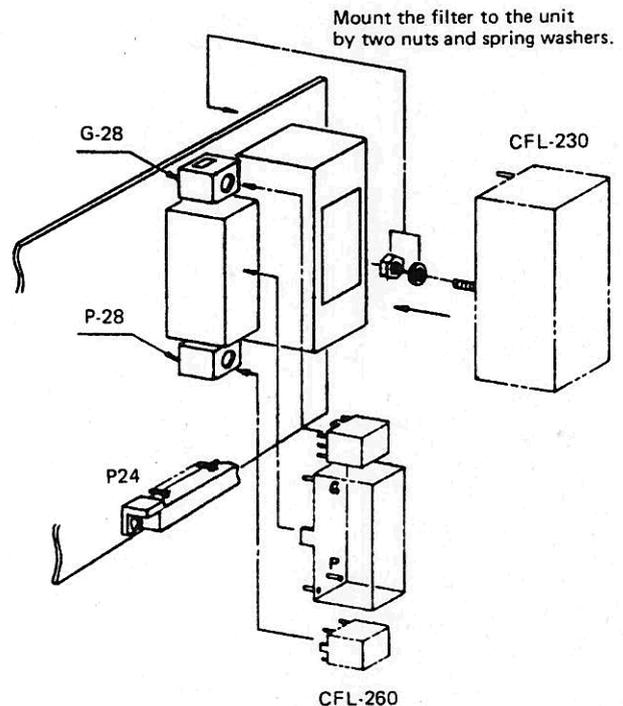

Figure 7.12 Mounting of the Optional Filters
- (1) Take out the IF AMP unit CAE-213A according to the instruction described in Paragraph 5.1 through 5.3.
- (2) Mount the optional filters, CFL-260 and/or CFL-230 on the IF AMP unit as shown in Fig. 7.12, and then solder the filter(s).
- (3) Insert the IF AMP unit into the right place. Be sure to insert the unit surely.
- (4) Before mounting the upper cover, check the correct operation.
- (5) Mount the upper cover.